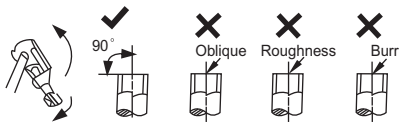

Fig. 26 — Cut the pipe
2. Cut the pipe, with a pipe cutter, at 90 degrees (see Fig. 26).